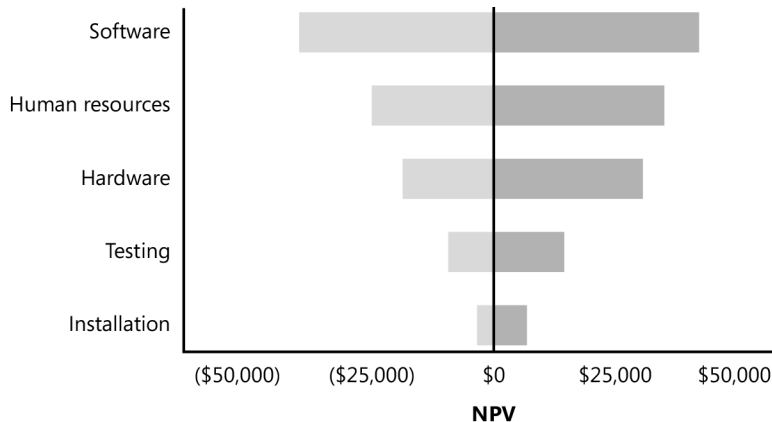

FIGURE 9-7 A tornado diagram shows how different risks might have an impact upon project net present value.
- **Tornado diagrams** Often used to present the results of sensitivity analysis. A tornado diagram is a histogram or bar chart where the data categories are listed vertically instead of horizontally, with the largest category at the top and then the other categories in order of descending size, giving the diagram the appearance of a tornado. Figure 9-7 shows an example of a tornado diagram presenting the results of sensitivity analysis to show which parts of the project are most sensitive to risk, judged by the quantitative impact they will have on the net present value (NPV) of the project.